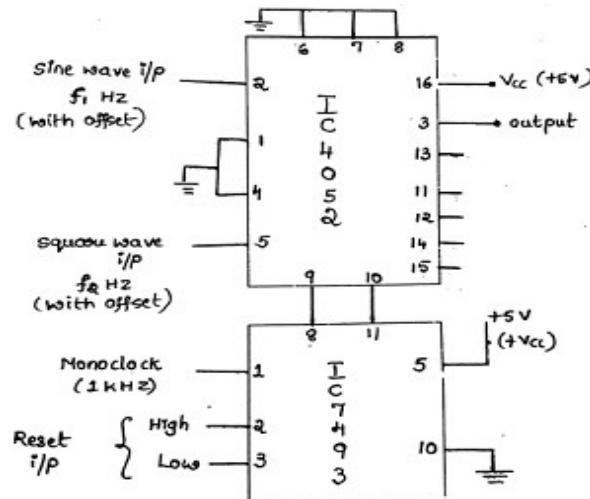

Fig.1: TDM multiplexing
- Rig up the circuit as shown in the fig 1